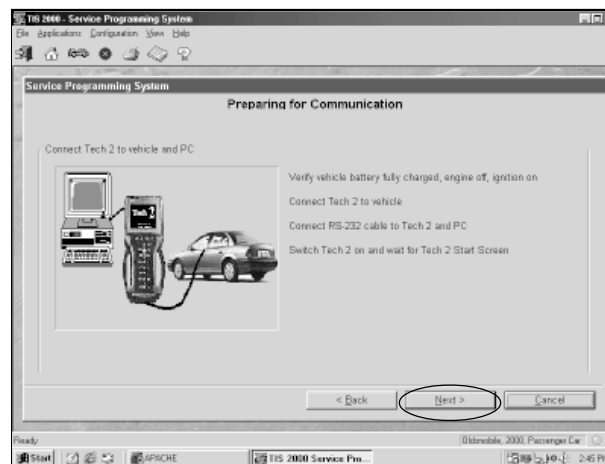

Figure I-19, Preparing for Communication screen
5. Follow the instructions in the Preparing for Communication screen. (Figure I-19)